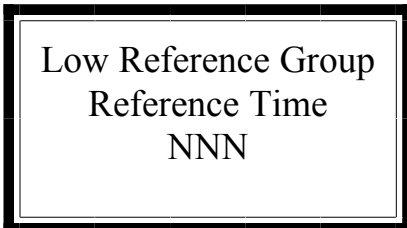

Figure 9b: Time taken for Low Referencing
3) Check the Reference Time, Figure 9b, for validity. (Time should be between 2-60, defaulted at 20 seconds).